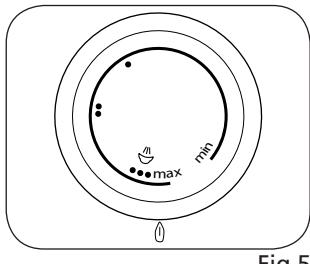

Fig 5
Select the desired temperature by turning the temperature adjustment knob (E), lining it up with the reference (I) on the iron (Fig 5). The temperature control lamp (F) turns on.